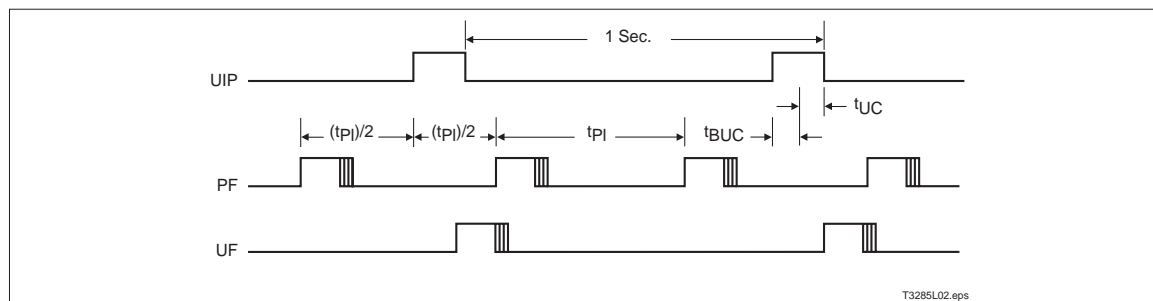

Figure 3. Update-Ended/Periodic Interrupt Relationship
- Enable the update interrupt event to generate interrupt requests at the end of the update cycle. The interrupt handler has a maximum of 999ms to access the clock bytes before the next update cycle begins (see Figure 3).
- Poll the update-in-progress bit (UIP) in register A. If UIP = 0, the polling routine has a minimum of t_{BUC} time to access the clock bytes (see Figure 3).
- Use the periodic interrupt event to generate interrupt requests every t_{PI} time, such that $UIP = 1$ always occurs between the periodic interrupts. The interrupt handler has a minimum of $t_{PI}/2 + t_{BUC}$ time to access the clock bytes (see Figure 3).